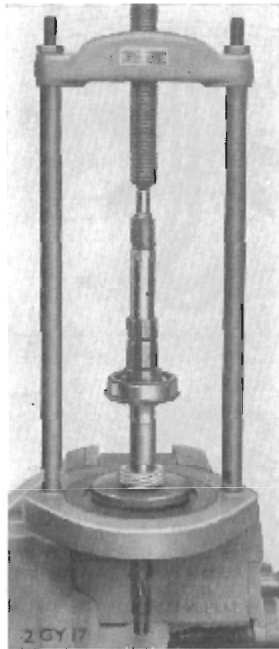

Fig. 38. Refitting the speedometer drive gear.
Next press the speed drive gear (76) on to the mainshaft as shown on Fig. 38 and spring the large circlip (101) into the ball race groove.